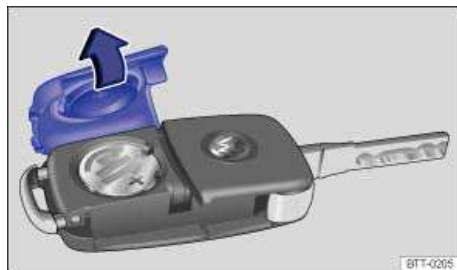

Fig. 25 Remote control vehicle key: Open battery compartment cover.
The battery is on the back of the remote control vehicle key under a cover ⇒ fig. 25.
- Remove the cover on the back of the remote control vehicle key ⇒ fig. 25 in the direction of the arrow ⇒ .
- Position the cover as shown ⇒ fig. 25 and press it down (opposite to direction of the arrow) until you hear it click into place.